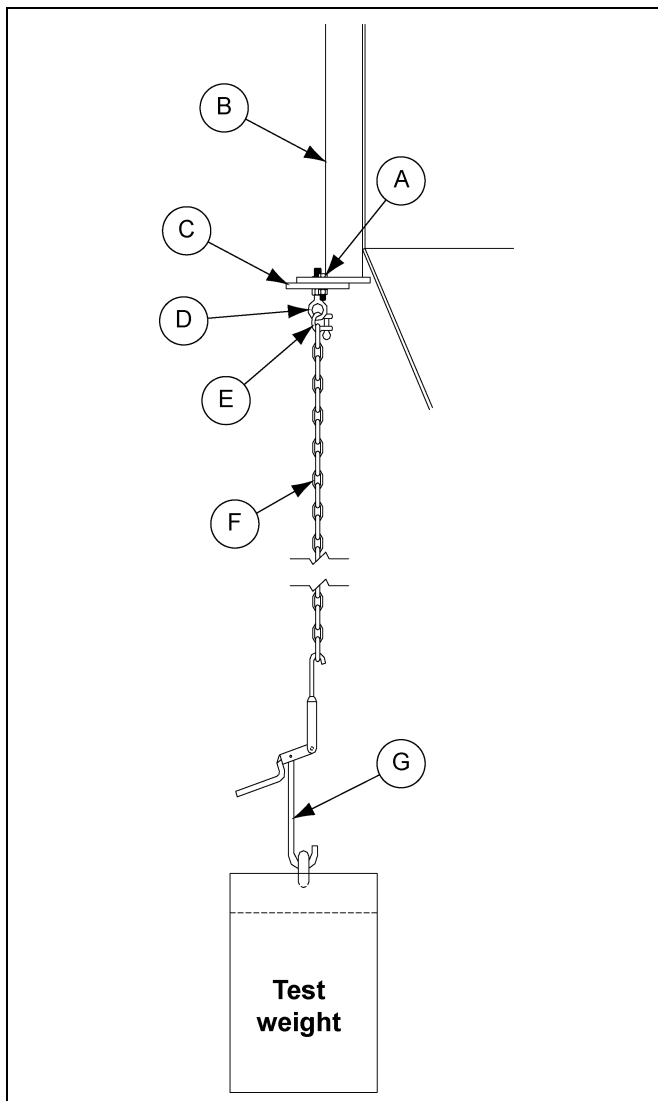

Figure 2B Test Weight Lift Assembly
11. Hook-up the test weight chains and the test weight lifters according to the test weight lift assembly drawing as shown in Figure 2B.